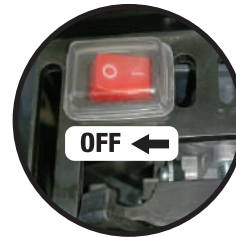

Figure 10
- Move the ignition switch to the ‘OFF’ position. (See Figure 10)